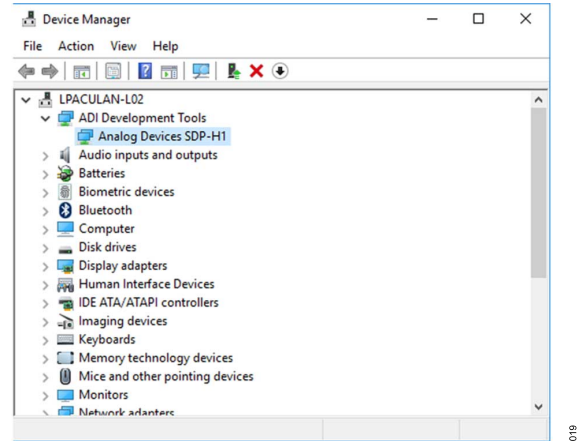

Figure 20. Windows Device Manager
4. If the SDP-H1 driver software is installed and the board is connected to the PC properly, **Analog Devices SDP-H1** appears under **ADI Development Tools** in the **Device Manager** window, as shown in Figure 20.